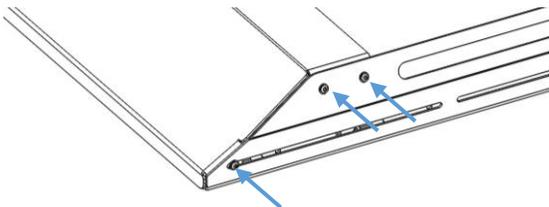

Figure 15: Front Air Dam Assembly
- Install the Air Dam in the front as shown in Figure 15 on both sides with the #10-32 x 3/8" bolts.